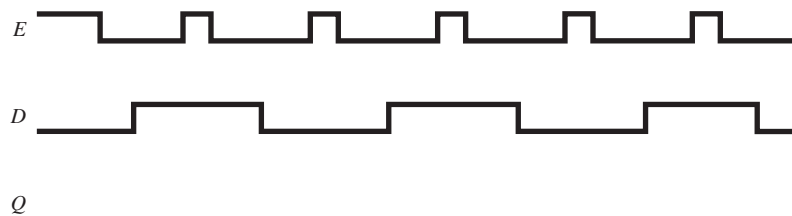

Figure P11
11. Repeat Problem 10 for the waveforms at E and D shown in Figure P11.